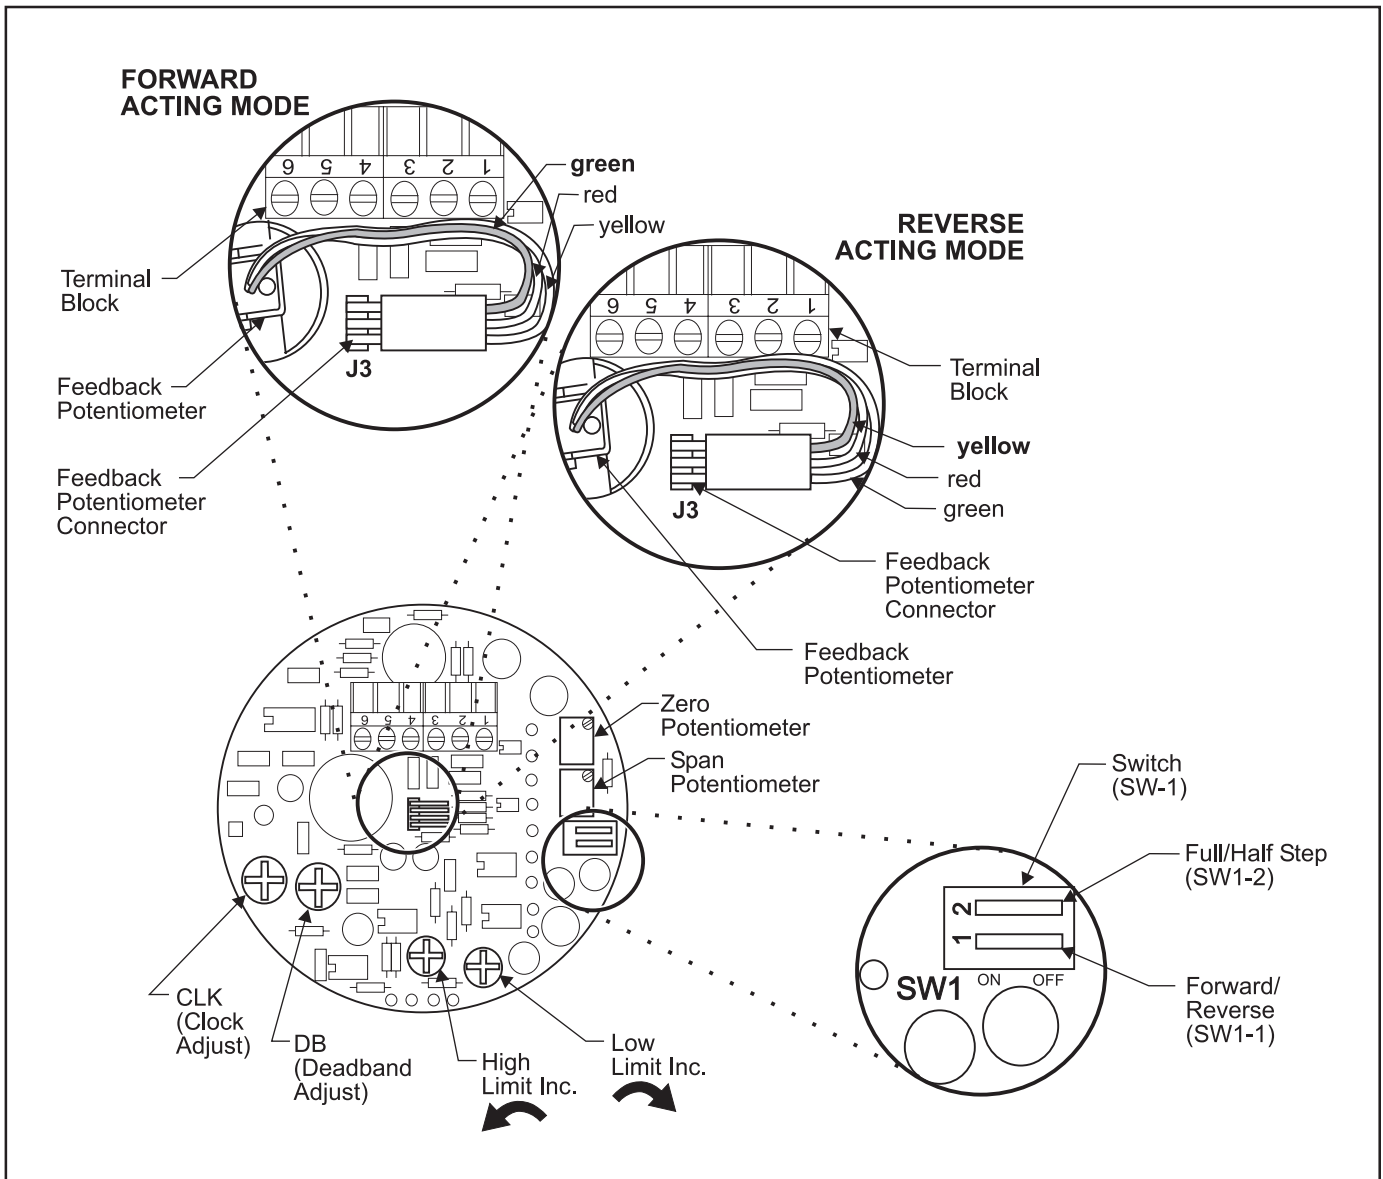

Figure 1. DC Analog Control Board Components.
2. Connect the **Feedback Potentiometer** connector to **J3** so that the **green wire** is closest to the terminal block. For more information, see Figure 1. "DC Analog Control Board Connections" on page 3.
5. Apply a minimum input signal to **terminals 1(+)** and **2(-)** for current signal and **terminals 3(+)** and **2(-)** for voltage signal. For more information, see Figure 1. "DC Analog Control Board Connections" on page 3.
2. Connect the **Feedback Potentiometer** Connector to **J3** so that the **yellow wire** is closest to the terminal block. For more information, see Figure 1. "DC Analog Control Board Connections" on page 3.
2. Turn the **CLK** control clockwise to increase motor speed and counterclockwise to decrease the motor speed. For more information, see Figure 1. “DC Analog Control Board Connections” below.
1. Adjust the **Low** and **High Limit Switches** to reach limits of 1/2 psig above maximum calibrated value and 1/2 psig below minimum calibrated value. For more information, see Figure 1. “DC Analog Control Board Connections” below.